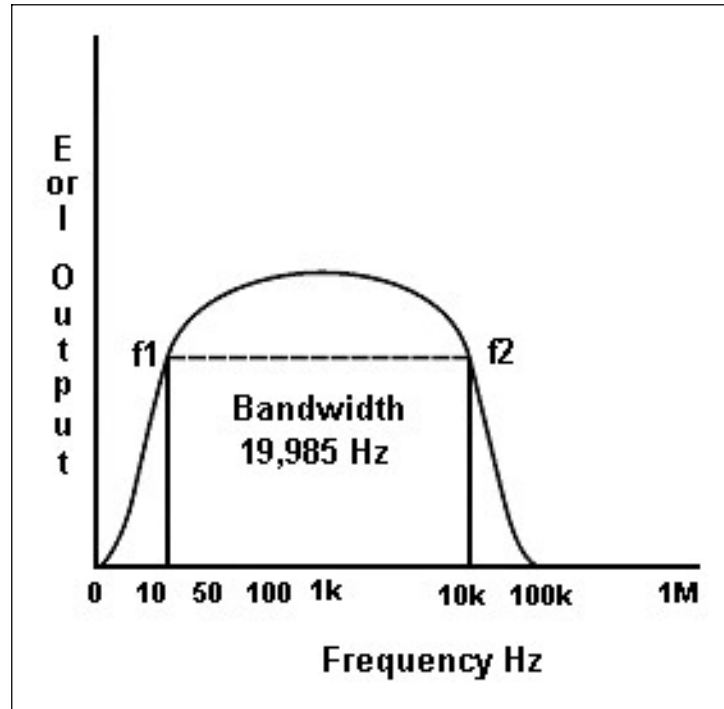
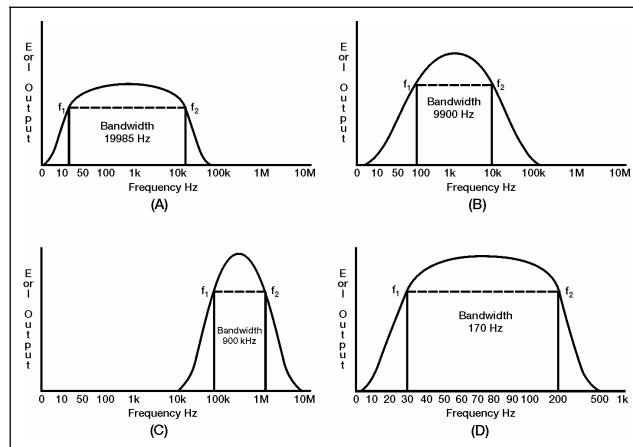

Figure 6-1. Frequency-response Curve of Audio Amplifier
Figure 6-2. Frequency-response Curves
6-7. Figure 6-1 shows a frequency-response curve. This is the frequency-response curve for an audio amplifier as described in chapter 5. It is “flat” from 15 Hz to 20 KHz. Also notice that the lower frequency limit is labeled f_1 and the upper frequency limit is labeled f_2 . Notice also the portion inside the frequency-response curve marked “BANDWIDTH.”
6-8. The bandwidth represents the amount or “width” of frequencies, or the “band of frequencies,” that the amplifier is most effective in amplifying. However, the bandwidth is not the same as the band of frequencies that is amplified. The bandwidth of an amplifier is the difference between the frequency limits of the amplifier. For example, the band of frequencies for an amplifier may be from 10 KHz to 30 KHz. In this case, the bandwidth would be 20 KHz. As another example, if an amplifier is designed to amplify frequencies between 15 Hz and 20 KHz, the bandwidth will be equal to 20 KHz minus 15 Hz or 19,985 Hz (see Figure 6-1). The following shows how to compute bandwidth:
6-9. Also notice in Figure 6-1 that the frequency-response curve shows output voltage (or current) against frequency. The lower and upper frequency limits (f_1 and f_2) are also known as HALF-POWER POINTS. The half-power points are the points at which the output voltage (or current) is 70.7 percent of the maximum output voltage (or current). Any frequency that produces less than 70.7 percent of the maximum output voltage (or current) is outside the bandwidth and, in most cases, is not considered a usable output of the amplifier. The reason these points are called “half-power points” is that the true output power will be half (50 percent) of the maximum true output power when the output voltage (or current) is 70.7 percent of the maximum output voltage (or current).
6-12. In Figure 6-1, the two points marked f_1 and f_2 will enable you to determine the frequency-response limits of the amplifier. In this case, the limits are 15 Hz and 20 KHz. You should now know how a frequency-response curve could enable you to determine the frequency limits and the bandwidth of an amplifier.
6-13. Figure 6-2 shows the frequency-response curves for four different amplifiers. View (A) is the same frequency-response curve as shown in Figure 6-1.
6-14. Figure 6-2, view (B) is the frequency-response curve of an amplifier that would also be classified as an audio amplifier, even though the curve is not “flat” from 15 Hz to 20 KHz and does not drop off sharply at the frequency limits. From the curve, you can see that the lower frequency limit of this amplifier (f_1) is 100 Hz. The upper frequency limit (f_2) is 10 KHz. Therefore, the bandwidth of this amplifier must be 10 KHz minus 100 Hz or 9,900 Hz. Most amplifiers will have a frequency-response curve shaped like view (B) if nothing is done to modify the frequency-response characteristics of the circuit.
6-15. Figure 6-2, view (C) shows the frequency-response curve for an RF amplifier. The frequency limits of this amplifier are 100 KHz (f_1) and 1 MHz (f_2). Therefore, the bandwidth of this amplifier is 900 KHz.
6-16. Figure 6-2, view (D) shows another audio amplifier. This time the frequency limits are 30 Hz (f_1) and 200 Hz (f_2). The bandwidth of this amplifier is only 170 Hz. The important thing to notice in this view is that the frequency scale is different from those used in other views. Any frequency scale can be used for a frequency-response curve. The scale used would be determined by what frequencies are most useful in presenting the frequency-response curve for a particular amplifier.